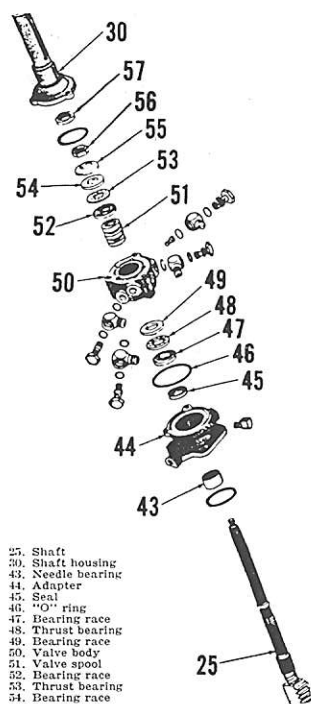
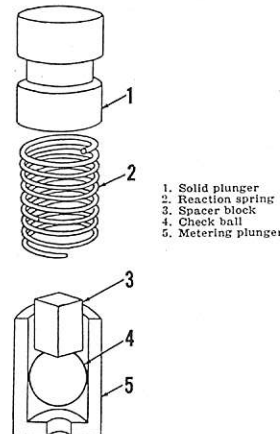

Fig. 25—Exploded view of Model MF135 steering shaft and ball nut assembly, steering valve and associated parts.
Fig. 27—Cross sectional view of ball check plunger showing correct assembly. Solid plunger (1) goes to top when unit is installed.
28. CONTROL VALVE. For service on the control valve, first disassemble the steering gear as outlined in paragraph 15. Refer to Fig. 25.
Disassemble and clean the valve and examine for wear, scoring or other damage. The locating groove on inside of valve spool and port markings (PR & RT) serve as match marks (L) toward the top, away from gear housing. Five ball-check type actuating plunger assemblies (P) are used; refer to Fig. 27 for correct assembly and installation of plunger units. Solid plunger (1) goes toward the top, away from gear housing. Install upper thrust bearing, washer (55—Fig. 25) and nut (56). Clamp the steering shaft in a vise and tighten nut (56) to a torque of approximately 30 ft.-lbs.; then back nut off 1/4-turn and stake in place, to establish the correct shaft movement to actuate the valve. Assemble the steering gear as outlined in paragraph 15, then bleed the system as in paragraph 19.
Fig. 26—When assembling the control valve, make sure that match marks (L) are to the top and that plunger assemblies (P) are installed as shown. Refer to text and to Fig. 27.